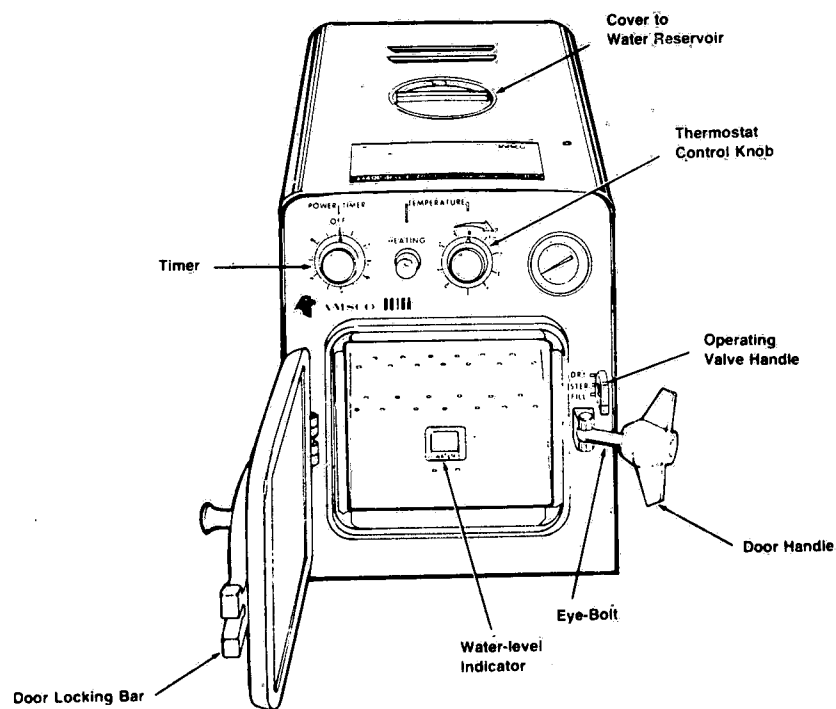

Figure 6-9. CONTROLS FOR STEAM TRAP ADJUSTMENT.
4. Remove water-reservoir cover (Fig. 6-9) and pour distilled or demineralized water into reservoir until water level is $\frac{1}{2}$ inch below top of reservoir (reservoir holds approximately 3 quarts).